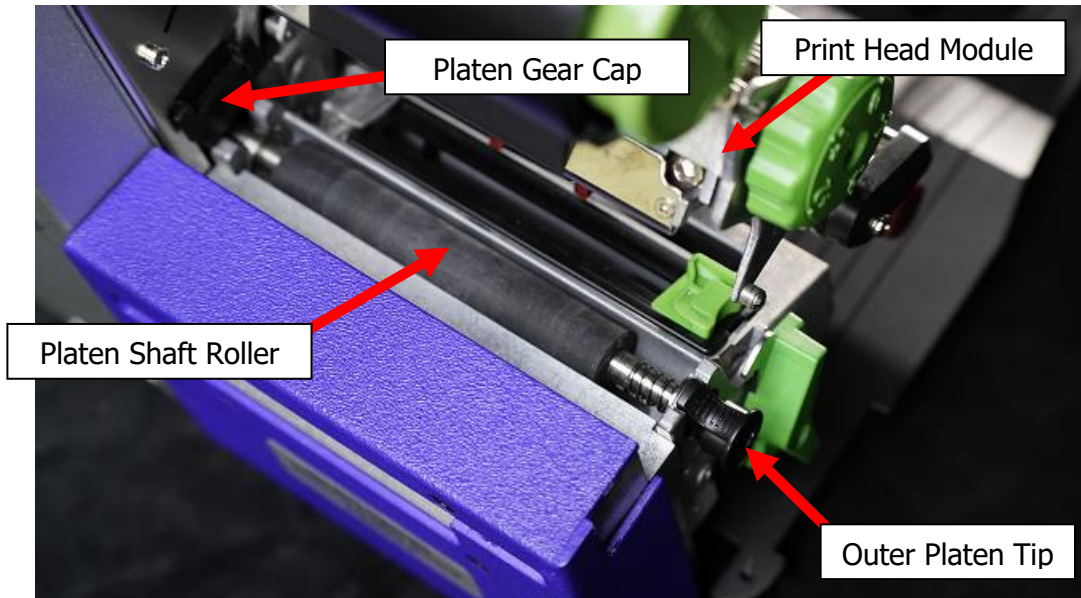

Figure 5
3. Locate the **Platen Shaft Roller** which is under the **Print Head Module** (see Figure 5)
4. With a flathead screwdriver, remove the **Platen Gear Cap** located on the printer chassis (see Figure 5)